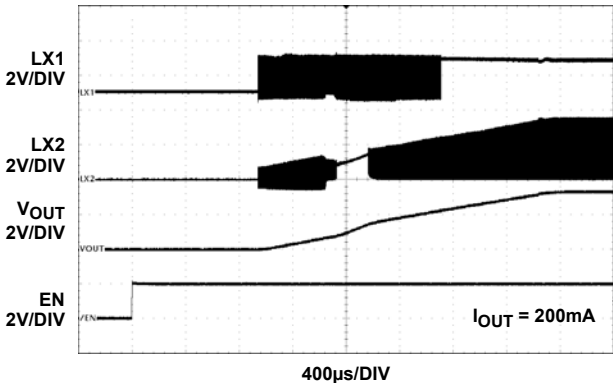

FIGURE 2. ISL91127IR START-UP WITH $V_{IN} = 2V$ AND $V_{OUT} = 3.3V$
Refer to the following Quick Setup Guide to configure and power-up the board for proper operation. During the power-on process, the expected waveforms are shown in Figures 2 and 3.
7. Monitor the output voltage start-up sequence on the scope. The waveforms will look similar to that shown in Figures 2 and 3.